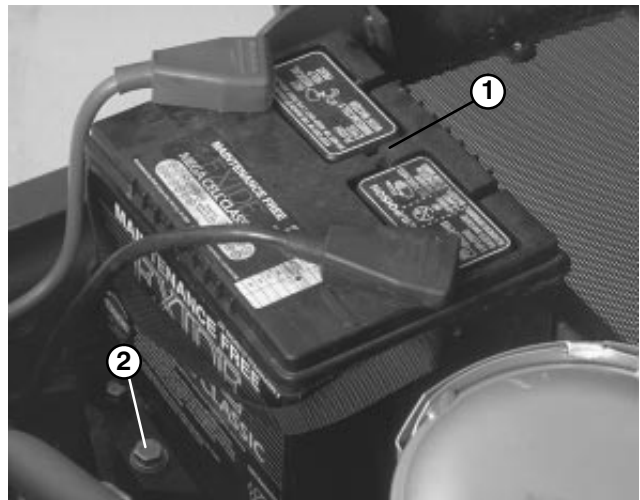

Figure 6
1. Lift engine cover. Check to see that the battery is securely fastened in place (Fig. 6).